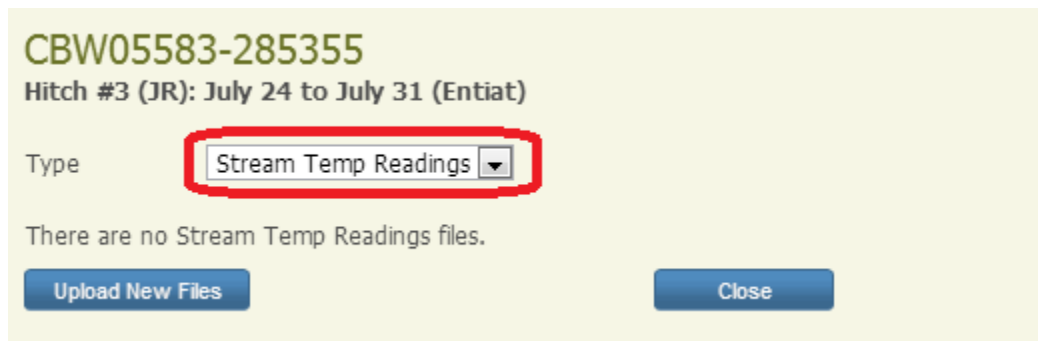

Figure 5. “File Management” dialog box. Select “Stream Temp Readings” from the “Type” dropdown.
5. The File Management dialog box will open. From the dialog box, select “Stream Temp Readings” from the “Type” dropdown menu (Figure 5).